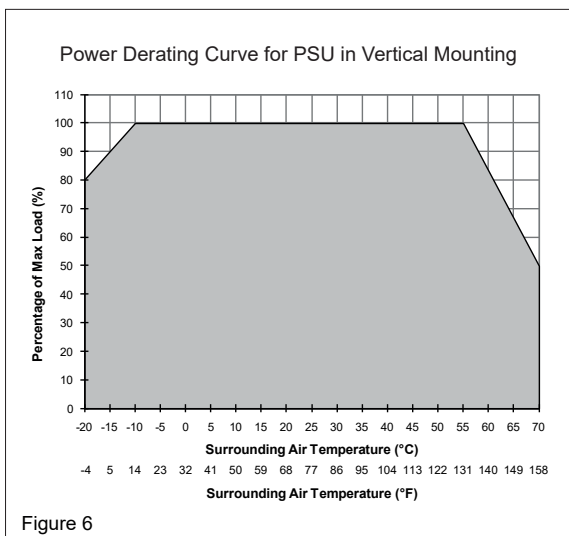

Figure 6
**5.4. Thermal behavior (Fig. 6)**